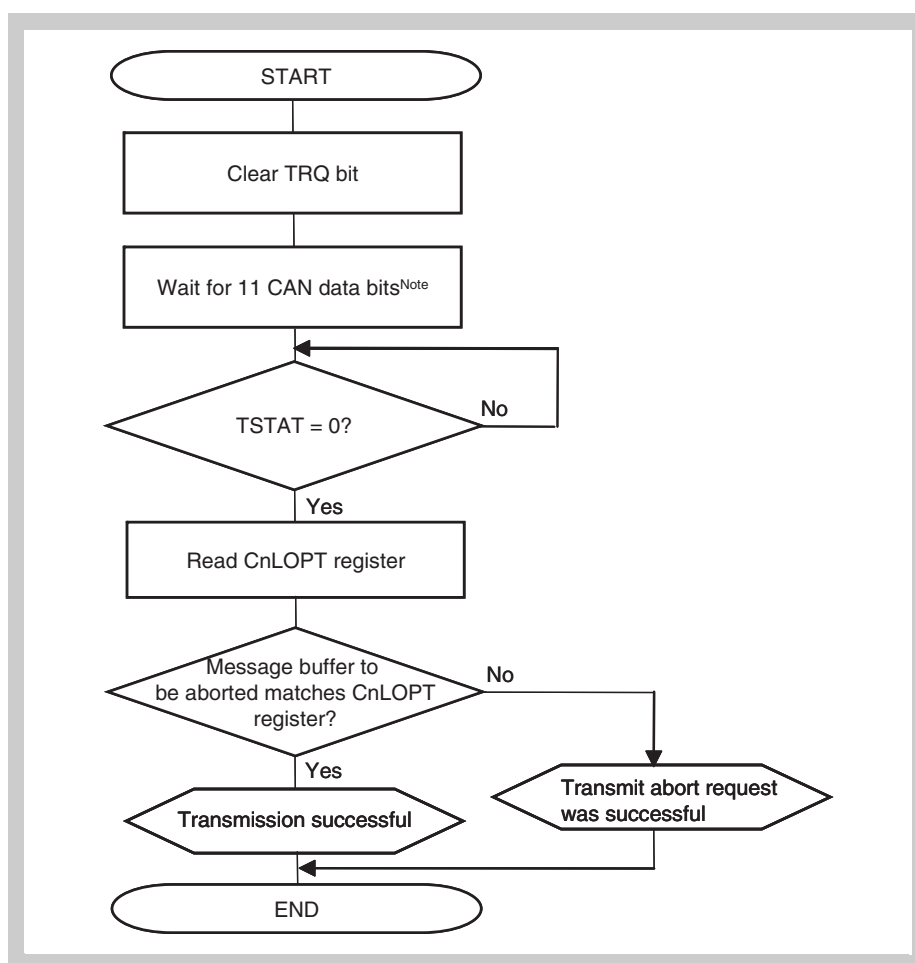
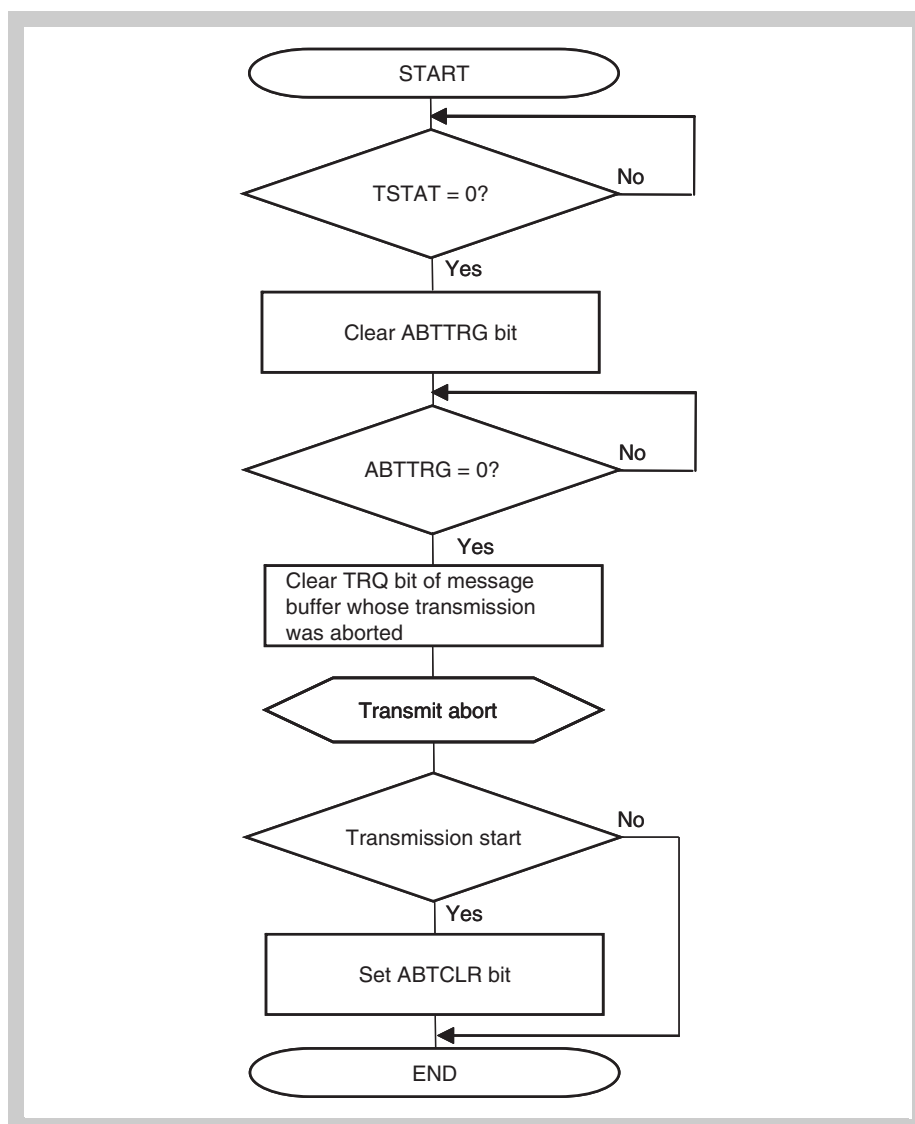
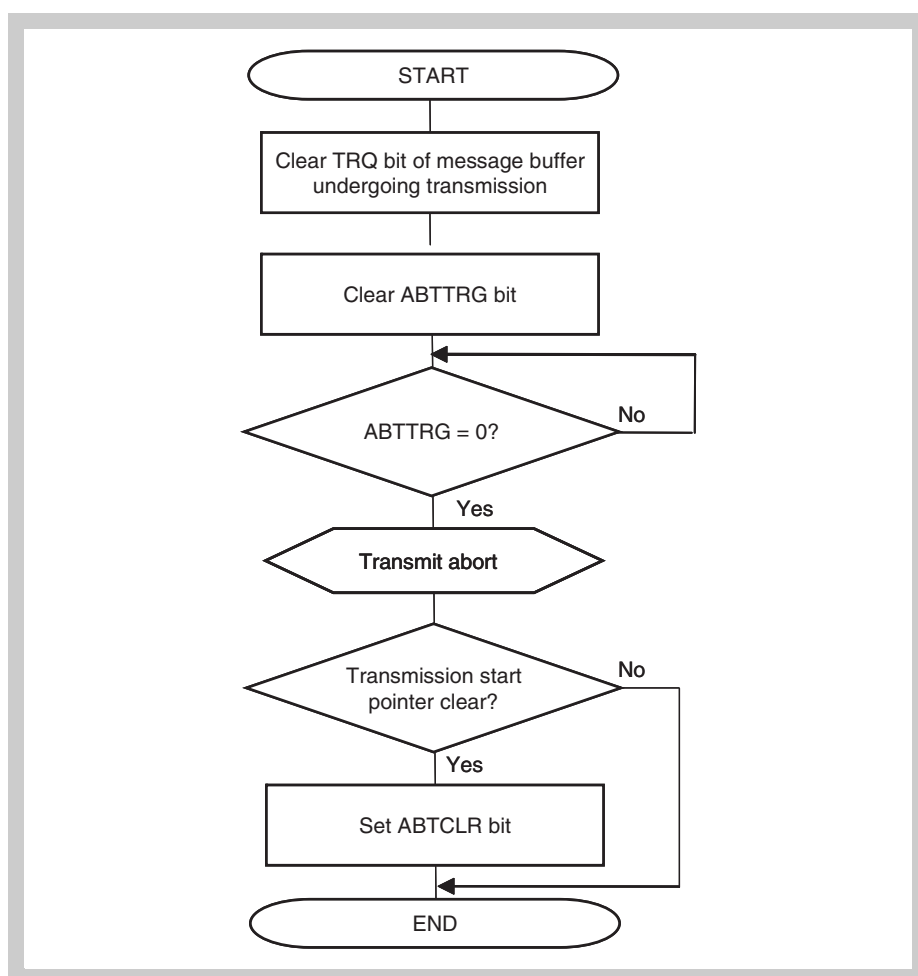

Figure 18-45 Transmission abort processing (except normal operation mode with ABT)
Figure 18-47 Transmission abort processing (normal operation mode with ABT)
Figure 18-48 ABT transmission request abort processing (normal operation mode with ABT)
Figure 18-47 shows the processing to skip resumption of transmitting a message that was stopped when transmission of an ABT message buffer was aborted.
2. Make a CAN sleep mode/CAN stop mode transition request after the ABTTRG bit is cleared (after ABT mode is aborted) following the procedure shown in *Figure 18-47* or *Figure 18-48*. When clearing a transmission request in an area other than the ABT area, follow the procedure shown in *Figure 18-45* on page 827.
Figure 18-48 shows the processing to not skip resumption of transmitting a message that was stopped when transmission of an ABT message buffer was aborted.
2. Make a CAN sleep mode/CAN stop mode request after the ABTTRG bit is cleared (after ABT mode is stopped) following the procedure shown in *Figure 18-47* or *Figure 18-48*. When clearing a transmission request in an area other than the ABT area, follow the procedure shown in *Figure 18-45* on page 827.
Caution To abort transmission before making a request for the CAN sleep mode, perform processing according to *Figure 18-45 on page 827* and *Figure 18-47 on page 829*.